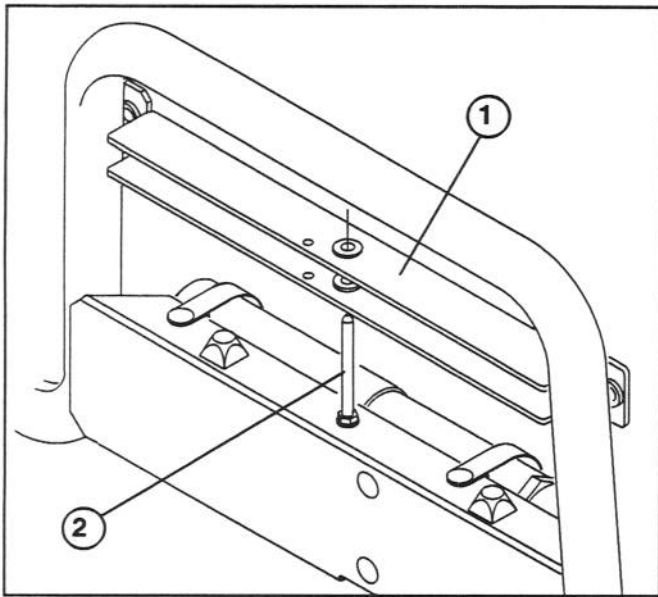

Figure 10
- B. Remove bed support from storage stud on top of back rest support channel on Workman (Fig. 10).